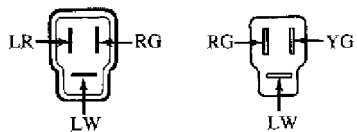

Fig. 2: RX7 A/C Accessory Connectors
1. Check that the G-03 accessory connector (A) is assembled correctly as viewed from the harness side of the connector. If not, remove the incorrect terminals and reassemble according to the connector diagram.
2. Check that the G-16 accessory connector (A) is assembled correctly as viewed from the harness side of the connector. If not, remove the incorrect terminals and reassemble according to the connector diagram. See Fig. 2.